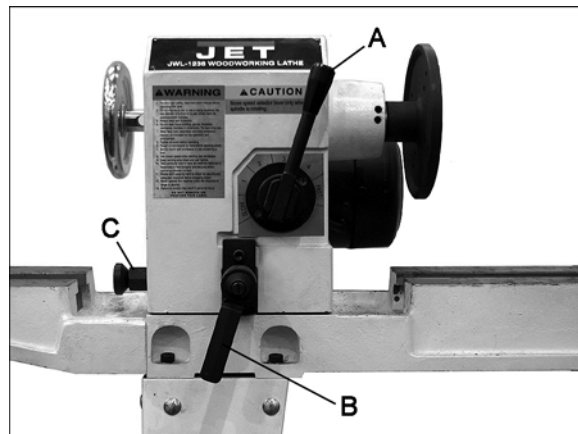

Figure 4
**Speed Selector** (A, Figure 4) - selects one of six available speeds. Select desired speed by pulling handle out from headstock and turning to left or right. Release handle and it will engage detent for that speed. **Caution: Never change speeds without motor running. Damage to the variable speed pulleys may result.**
**Headstock Lock** (B, Figure 4) - locks headstock in a fixed position. Tighten clockwise to lock. Loosen counterclockwise to unlock. **Caution:** always operate lathe with the headstock in the locked position.
**Detent Release** (C, Figure 4) - pull out and hold to swivel headstock. Release to engage detents at 90 or 180 degrees.